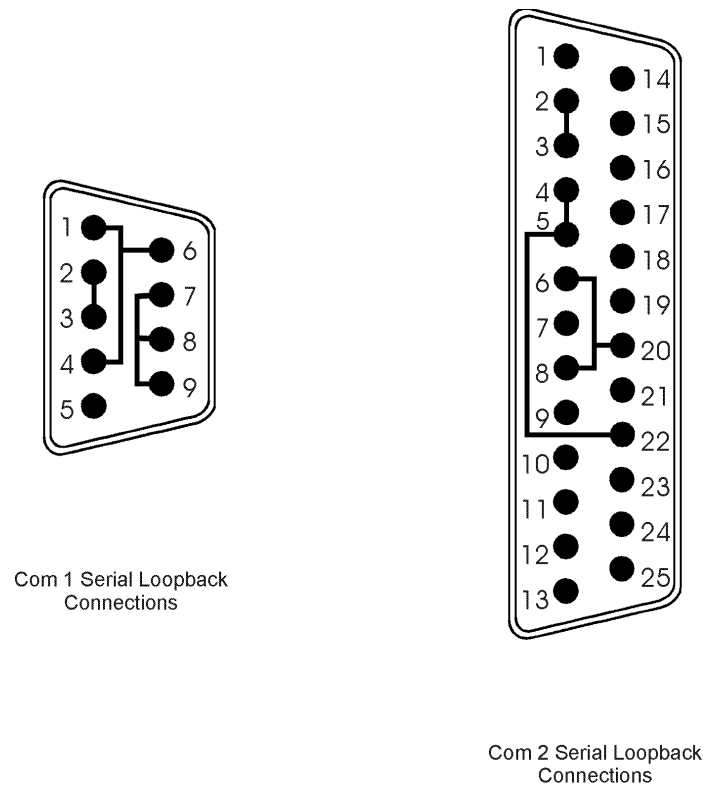

Figure 2-1. Serial Loopback Connections
- Two serial loopback test connectors (refer to Figure 2-1 for pinouts)
3. Connect the serial loopback connector(s) and the printer cable to the appropriate connectors and connect a PC/AT or PS/2 keyboard. Figure 2-1. Serial Loopback Connections illustrates the wiring necessary for the loopback connection.